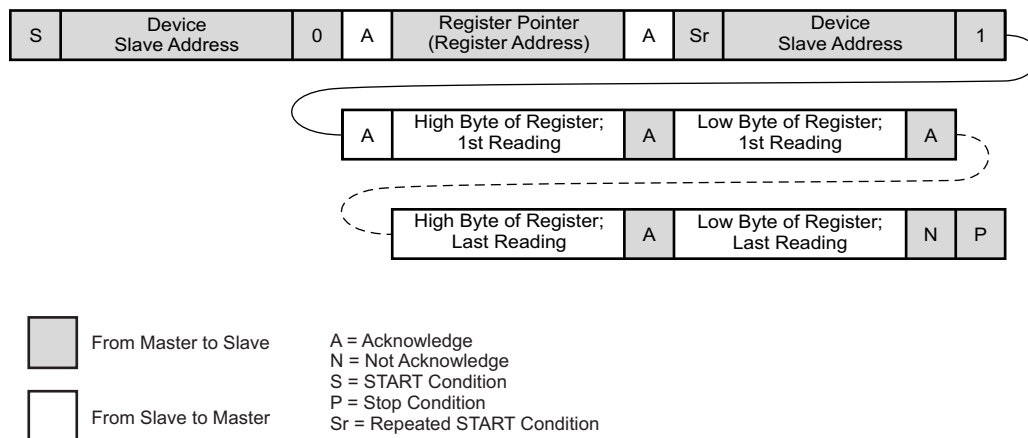

**Figure 102. Read a Single Word**
**Reading a Single Word from Any Register (Figure 102)**
Figure 102 shows a diagram of this protocol. Steps for this protocol are: